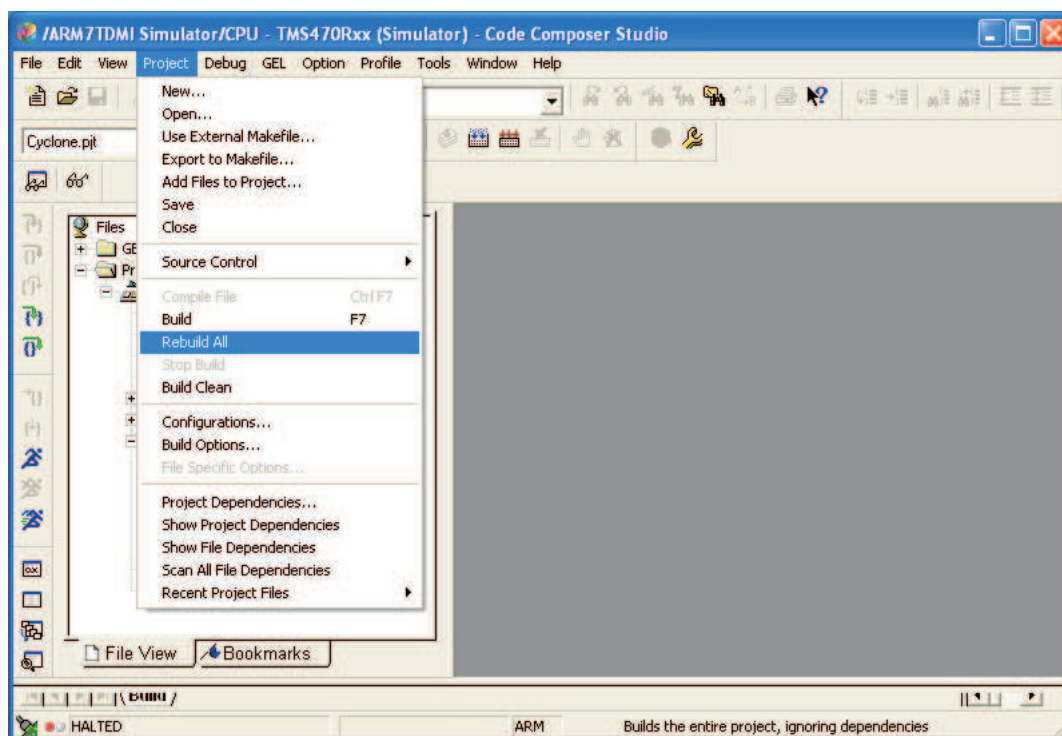

Figure 18. Opened Project File With Example of *Cyclone.pjt* - Rebuild All
5. Select *Project Rebuild All*, as shown in Figure 18. *Project Rebuild All* generates the file *Cyclone.x0* based on *Cyclone.out*, and saves the file of *Cyclone.x0* inside the folder where *Cyclone.pjt* is saved.